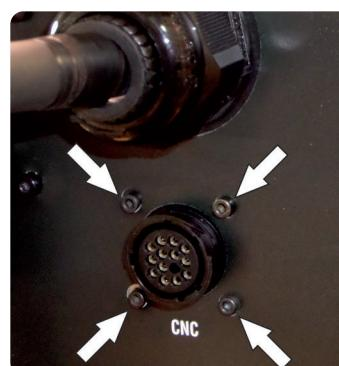

Fig. 4
- ◆ Insert the 14-pole circular connector present at one end of the 5587493 (pos.2) connection into the hole that was under the previous plate , now available, and fix it as shown in fig.4;
- ◆ Fix the eyelet earth terminal available at one end of the 5587493 (pos.2) connection to the fixing point shown in fig.4, using the M3 screw and nut. The nut must be inside the power source